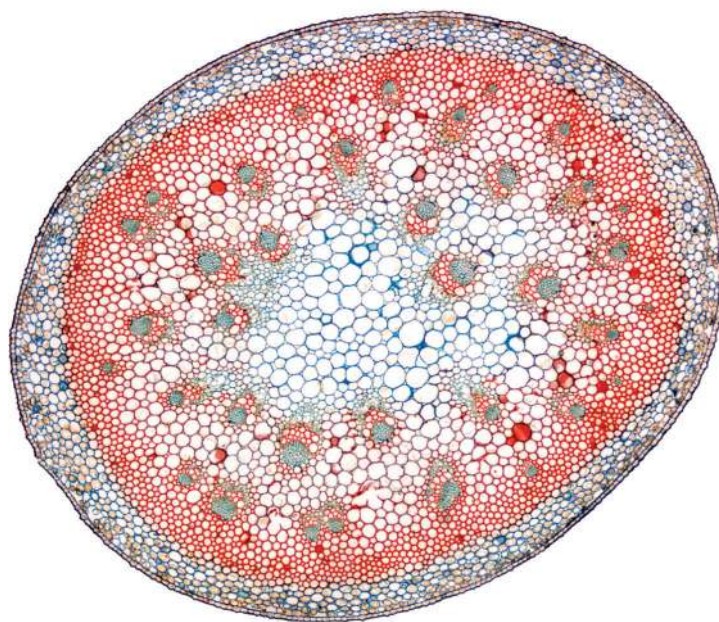

Fig. 2.1
- (b)** Fig. 2.1 is a photomicrograph of a stained transverse section through a **stem** of a different type of plant.
- (i) Identify **one** similarity between the section on **M1** and the section shown in Fig. 2.1.
- (ii) Identify the observable **differences** between the section on **M1** and the section shown in Fig. 2.1.